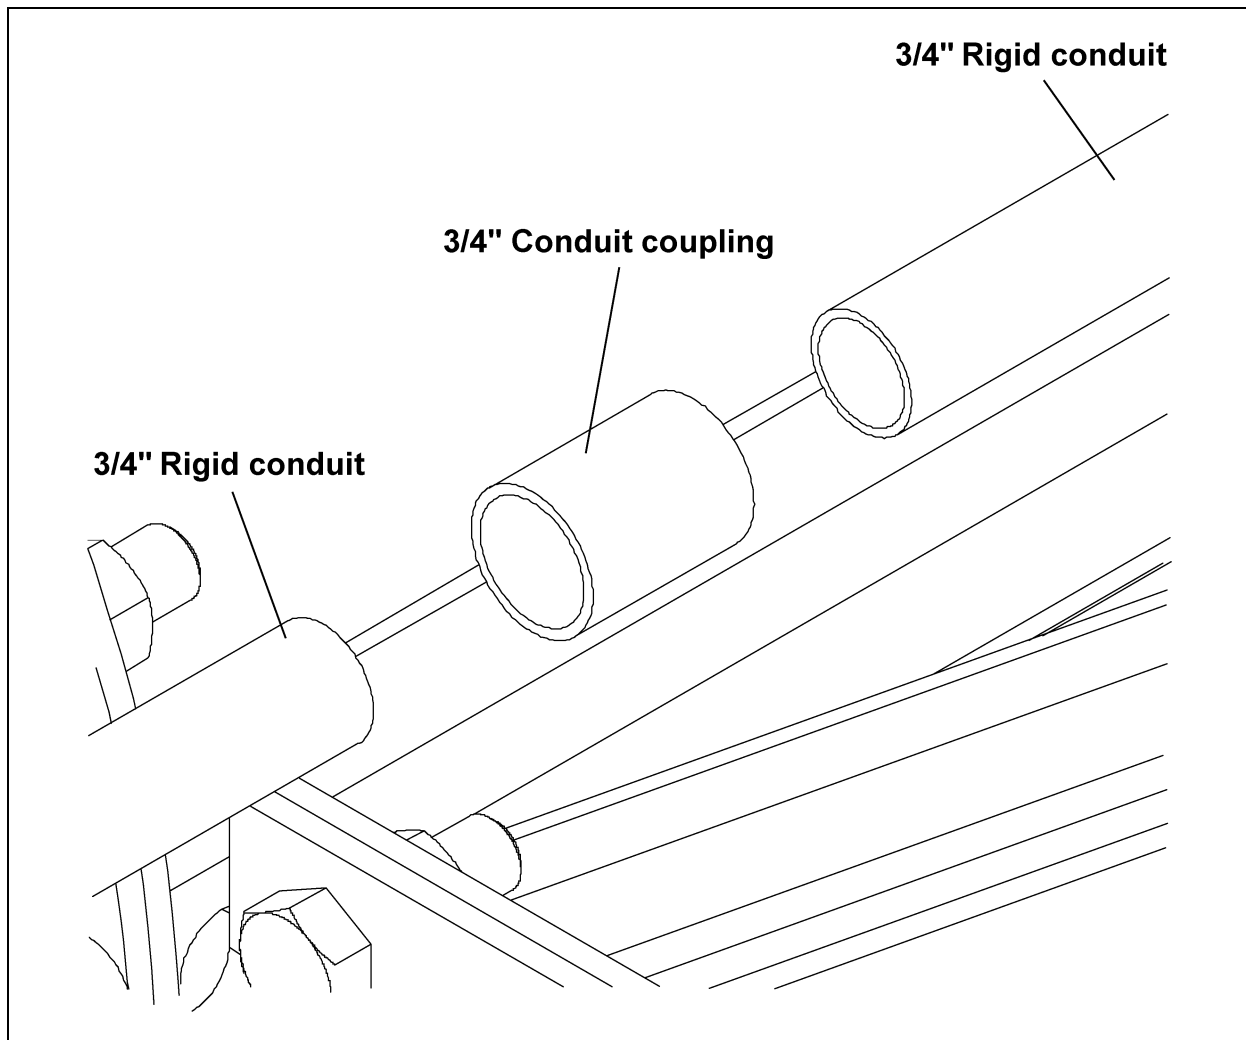

Figure 5Z
- B. Connect the rigid conduit together using one 3/4" conduit coupling between each piece of conduit. (See Figure 5Z.)